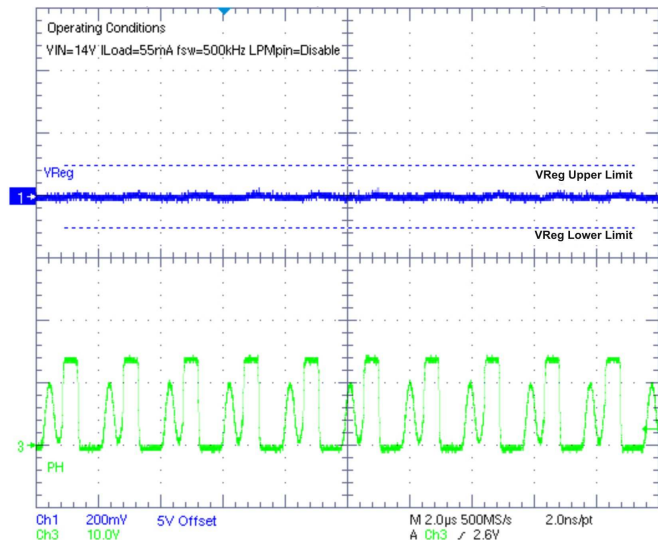
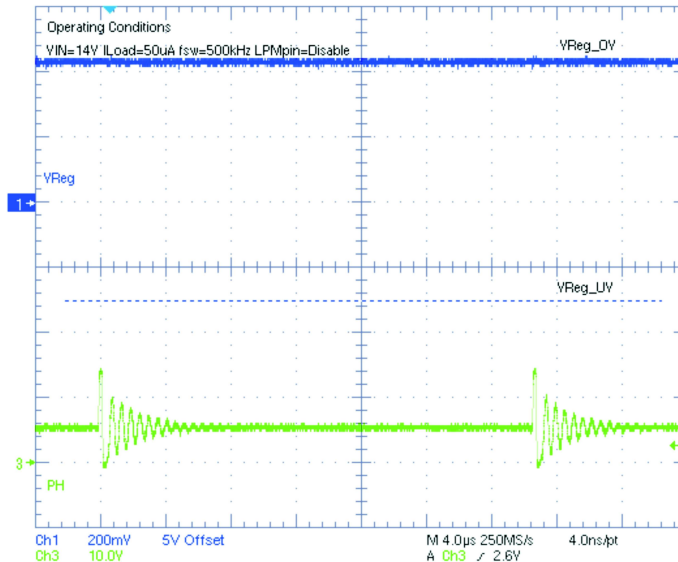

Figure 16. Active Mode DCM
Figure 19. PSM at Nominal VIN
The device enters in this mode of operation when LPM pin is set high (i.e disabled) and output loading is less than $I_{L_DISCONT}$. This mode of operation is shown in Figure 16.
- At nominal input voltages during very light output loading. This mode of operation is shown in Figure 19. Comparing Figure 16 and Figure 19, in both cases the device is operating in discontinuous conduction mode; however, pulse skipping happens in Figure 19 because of very light output loading for similar input voltage. LPM pin must be set high (i.e., disabled) for this to happen.